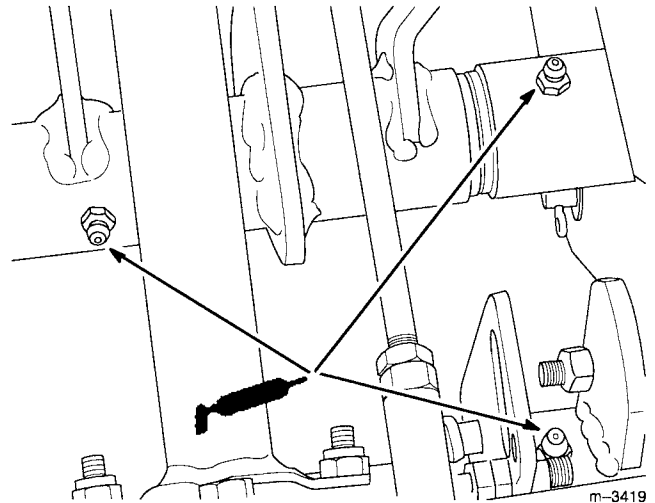

Figure 30
4. Lubricate the three grease fittings (Fig. 30).